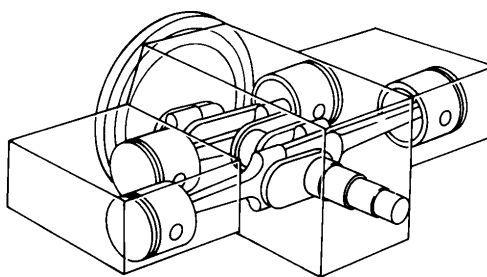

Figure 5.11 Opposed engine layout
- Opposed (Figure 5.11). The cylinders are in two opposing, usually horizontal rows.